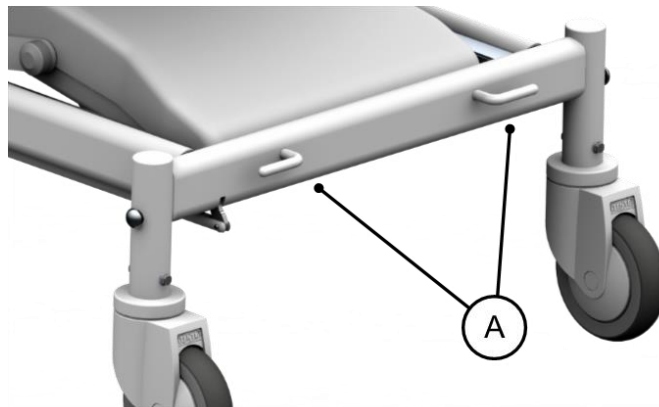

Figure 2.
When the couch is not in use or before moving the couch, the power supply cable should be stored safely to the cable storage hooks located at the head end of the couch on the undercarriage cross rail (Figure 2) (A). To isolate the couch from the electricity supply, disconnect the mains plug from the socket outlet.